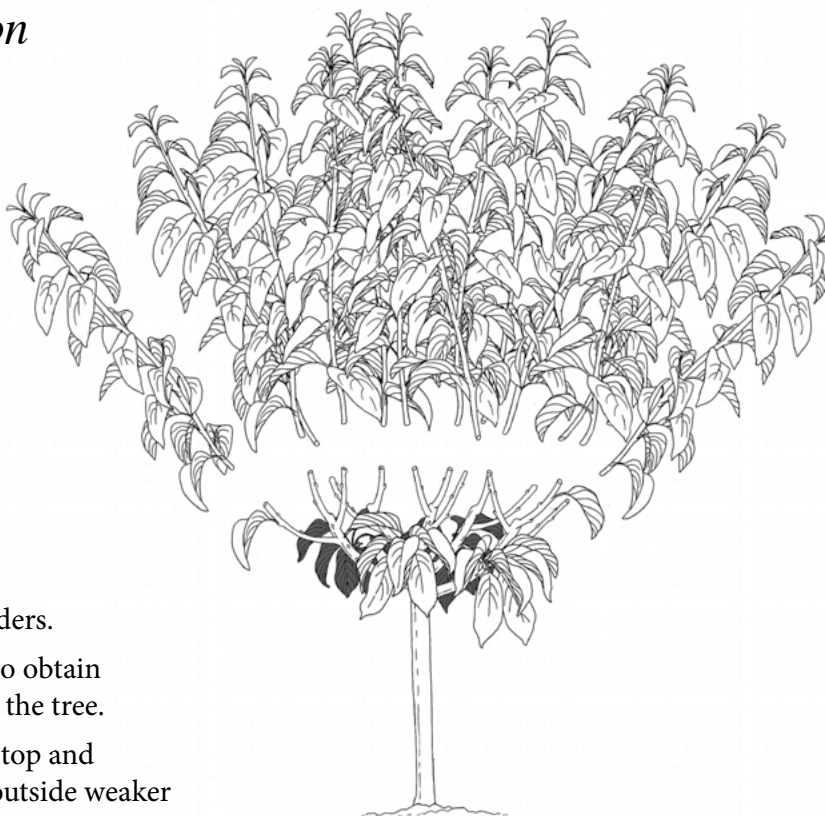

Figure 16
- Prior to the summer solstice (first day of summer), head all leaders to 2–5 inches in length (Figure 16).